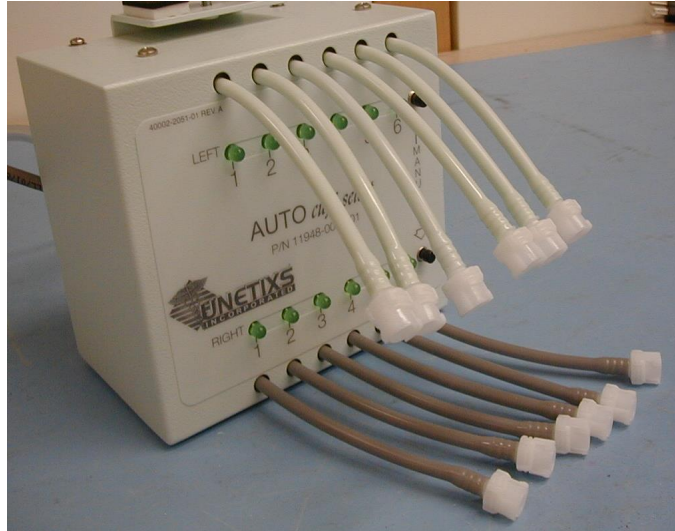

Figure 12
- 6.1. Attach 12 Inline Fittings (10606-0005-01) to the Aqua and Grey hoses as shown in Figure 12.